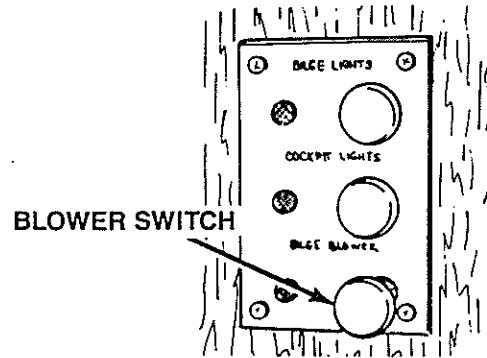

Figure 3-27 Bilge Blower Switch
6. See Figure 3-27. Prior to entering the compartment, operate the bilge blowers to ventilate the area. Bilge blower switches are located on the bridge control console and next to the Master Control Panel in the salon.